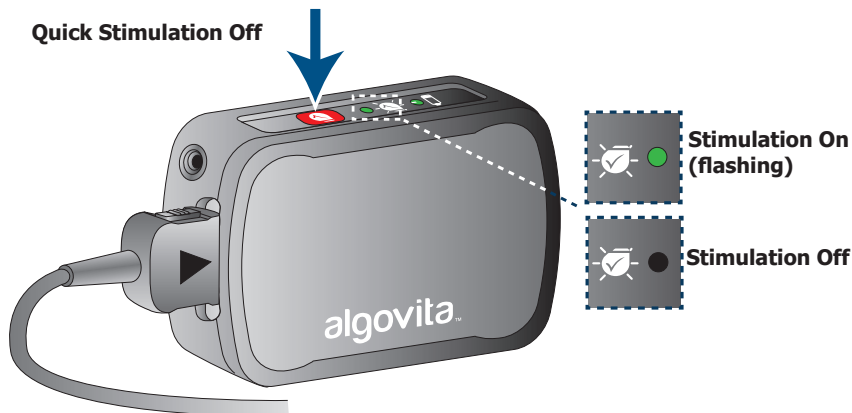

Figure 4. Quickly turning stimulation off
- Press the **Quick Stimulation Off** button (*Figure 4*) and hold for approximately 2 seconds. After a short delay, stimulation turns off, and the Stimulation On/Off light turns off.